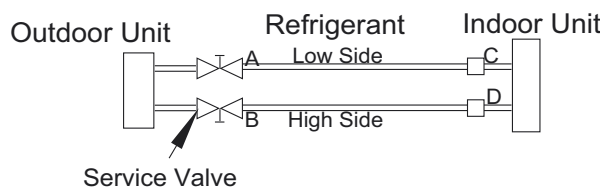

Fig. 20 – Service Valve
- 1 Completely tighten all flare nuts and connect manifold gage charge hose to a charge port of the low side service valve. (See Fig. 20).